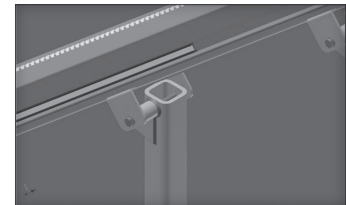

Figure 5-2
**2. Set the lower section of rail into the mounting legs.** The clamps fit into a small channel on the bottom of the rail. **DO NOT** fully tighten the clamps at this time. *[Figure 5-2]*